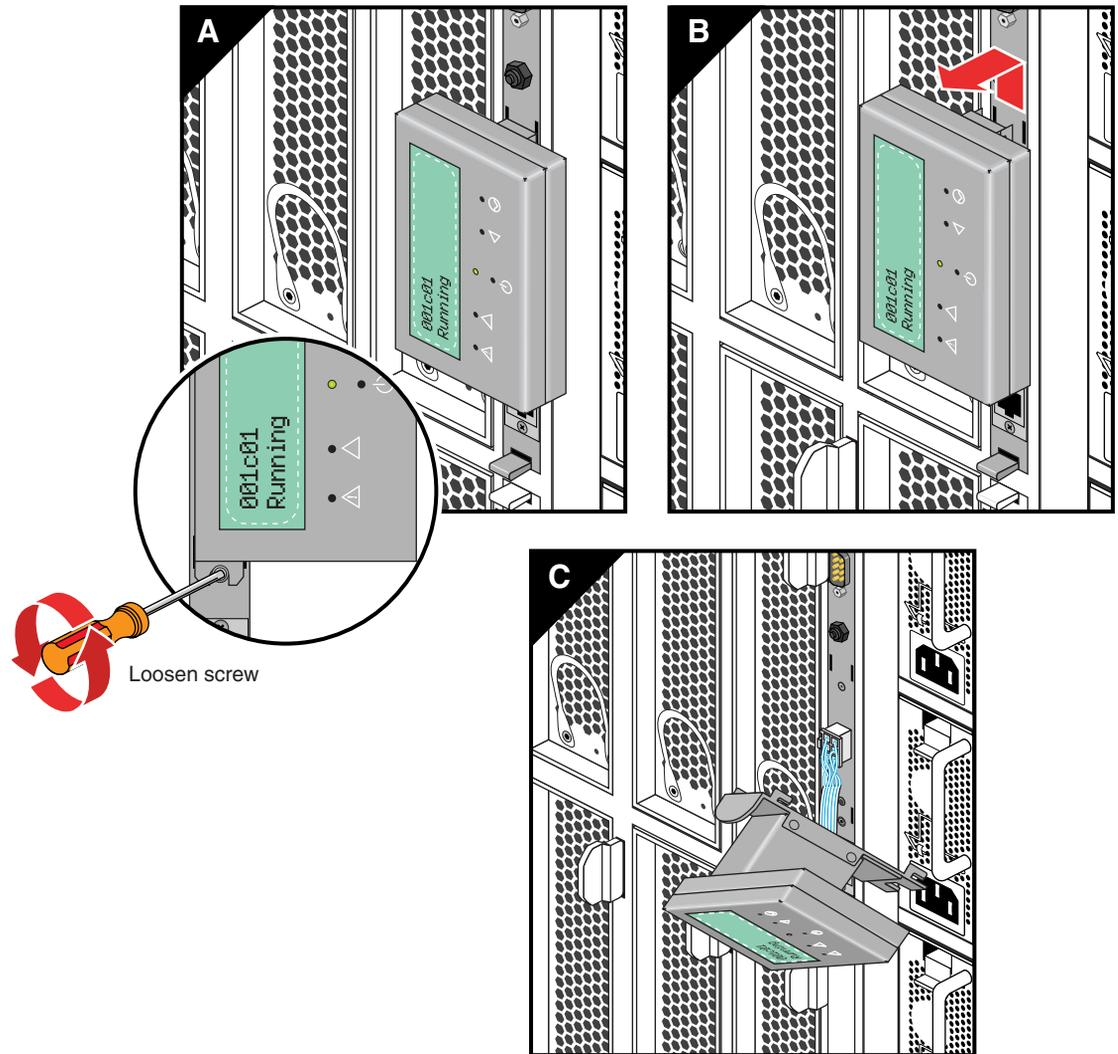

Figure 6-1 Removing the L1 Controller Panel
1. Using a T10 torx driver, loosen the lower screw that holds the display panel to the IRU chassis, see Figure 6-1 on page 71.